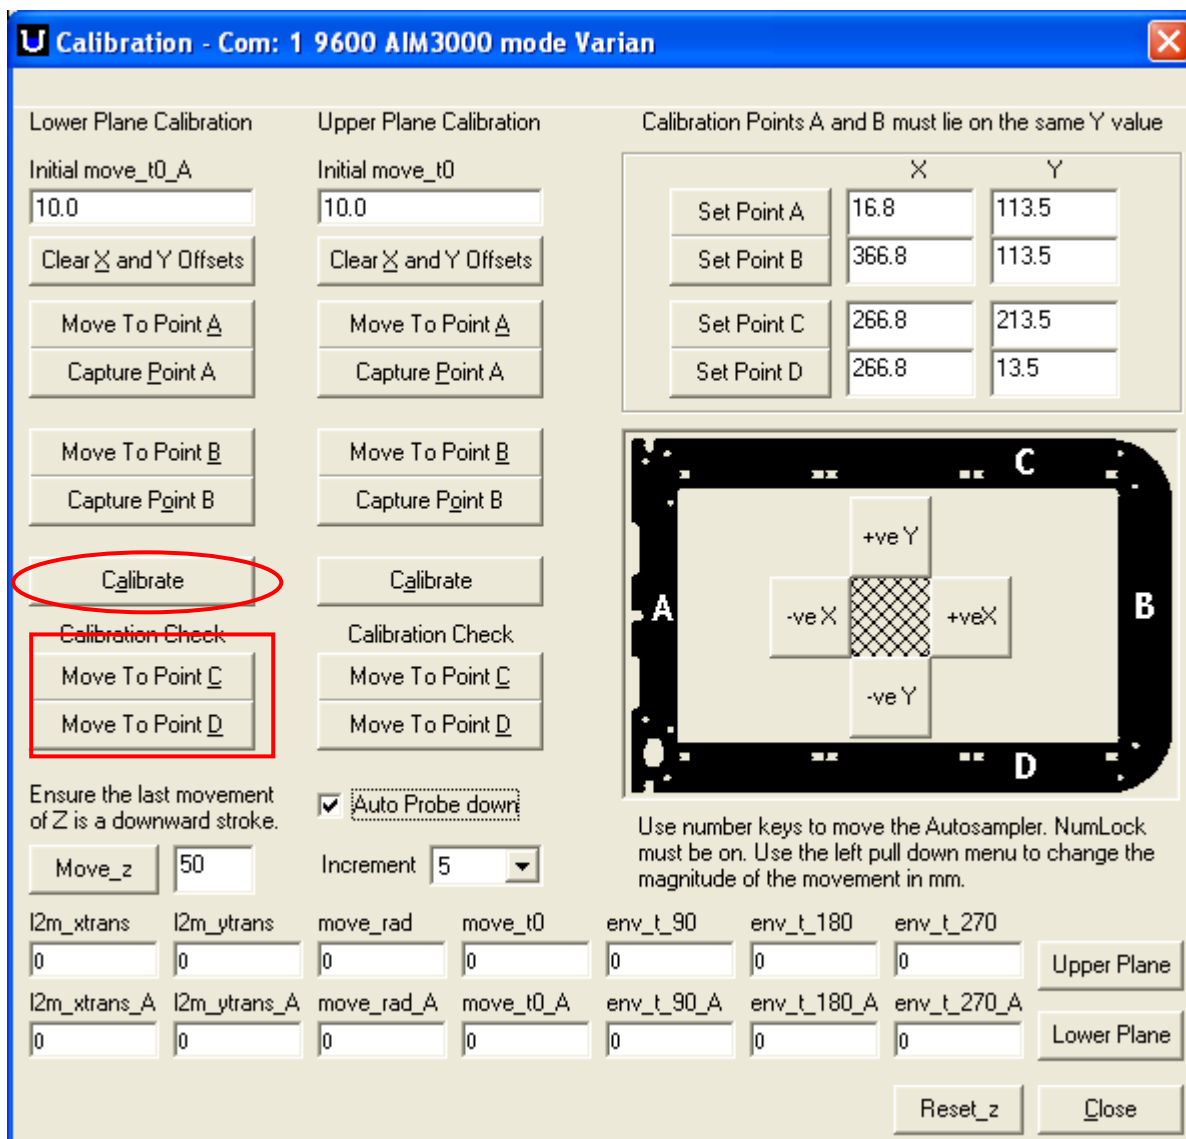

Figure 47. Calibrating and Checking the Calibration
11. Once both the A and B points have been calibrated, click on the Calibrate button to lock in the calibration coordinates of the lower level plane (Figure 47).
12. The Calibration can be checked by moving the probe to position C (Move to Point C) Figure 47. The probe should be within 1 mm of the point C. Moving the probe to position D (Move to Point D) will further confirm (assuming that it is also within 1 mm) that the whole lower level has been calibrated properly.